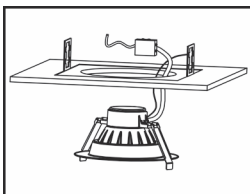

Fig. 5
- 6.) Squeeze the two tension clips so they are in an upright position and insert lamp into the frame. (**Figure 5**)
- 6.) Once the luminaire is inside the frame, release the tension clips and continue pushing the luminaire into the frame until securely fixed and flush with ceiling (**Figure 5**)